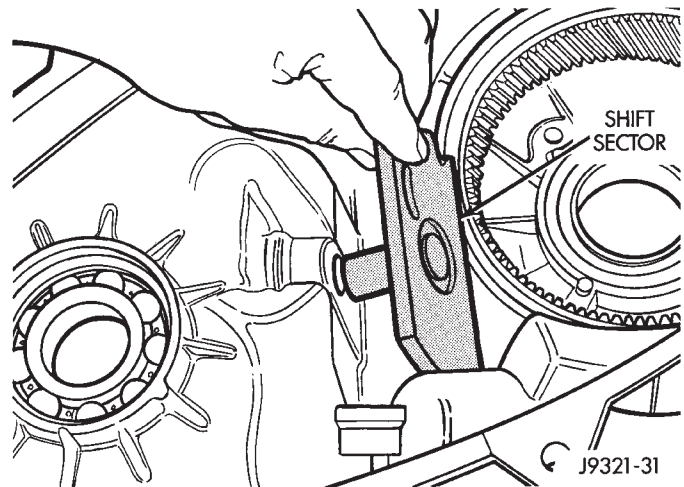

Fig. 62 Installing Shift Sector
(1) Support front case on wood blocks. Position case so sector shaft bore and input gear bearing are accessible.
(2) Lubricate sector shaft, shaft O-ring and shaft bore (in case) with petroleum jelly.
(3) Install sector in case (Fig. 62).